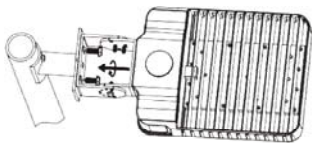

FIG.11
- Tighten the fixture to the tenon pole or tenon adapter by two M12 bolts (see **FIG.11**).